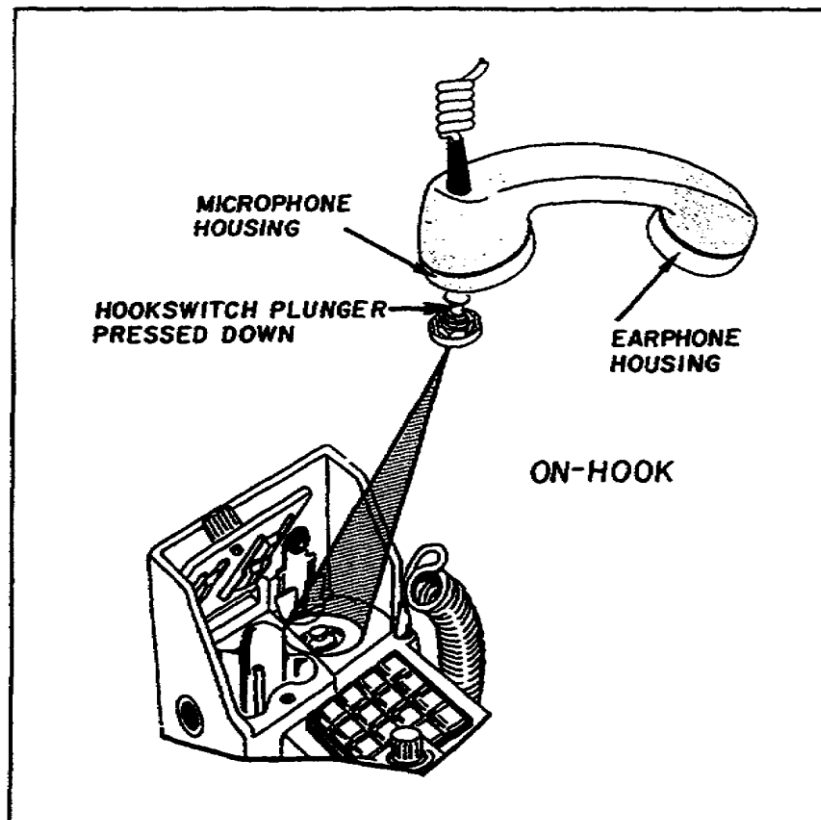
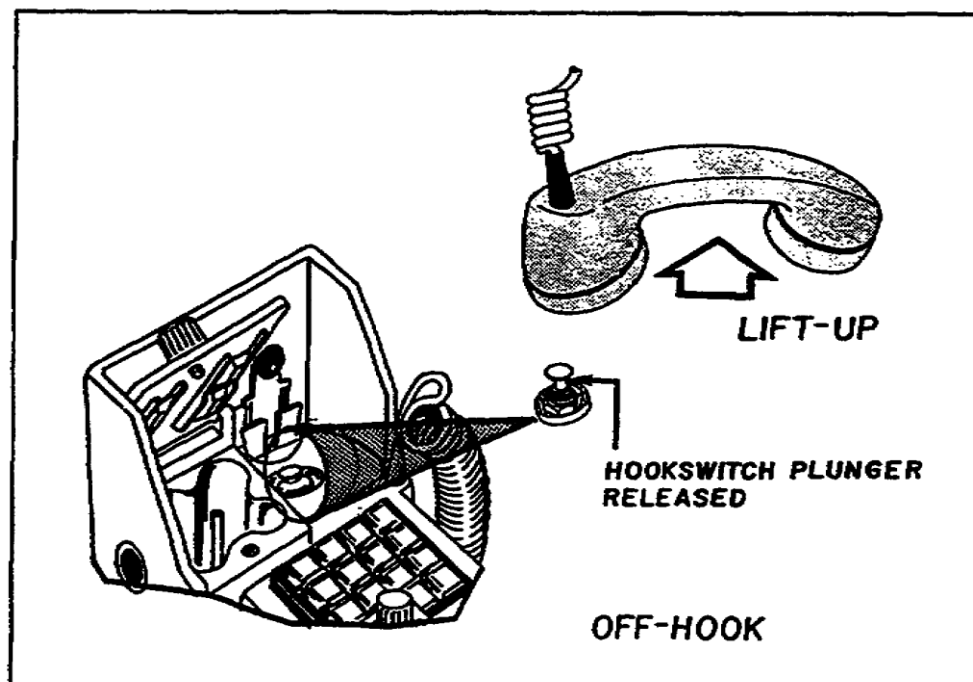

Figure 1-12. Handset (on-hook).
Figure 1-13. Handset (off-hook).
j. Handset and HOOKSWITCH. The handset is attached to the telephone set by a retractable cord. When the handset is not in use (on-hook), it is placed on top of the HOOKSWITCH and the HOOKSWITCH plunger is pressed down. The telephone set ringer circuits are now connected to receive a ringing signal (See Figure 1-12.) When the handset is lifted off the HOOKSWITCH (off-hook), the ringer circuits are disconnected and the telephone set sends an off-hook signal to the distant equipment switchboard or telephone set). (See Figure 1-13.)